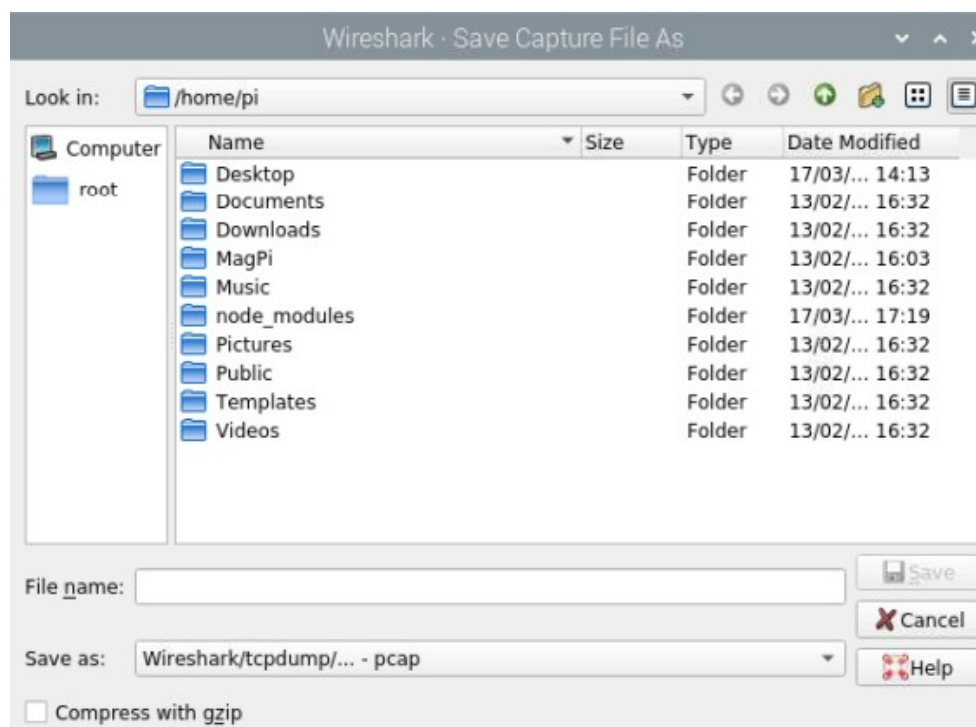

Figure 7.8: Saving a PCAP File
- Go to **File** → **Save As...** (Figure 7.8) to store the capture in **.pcap** or **.pcapng** format.